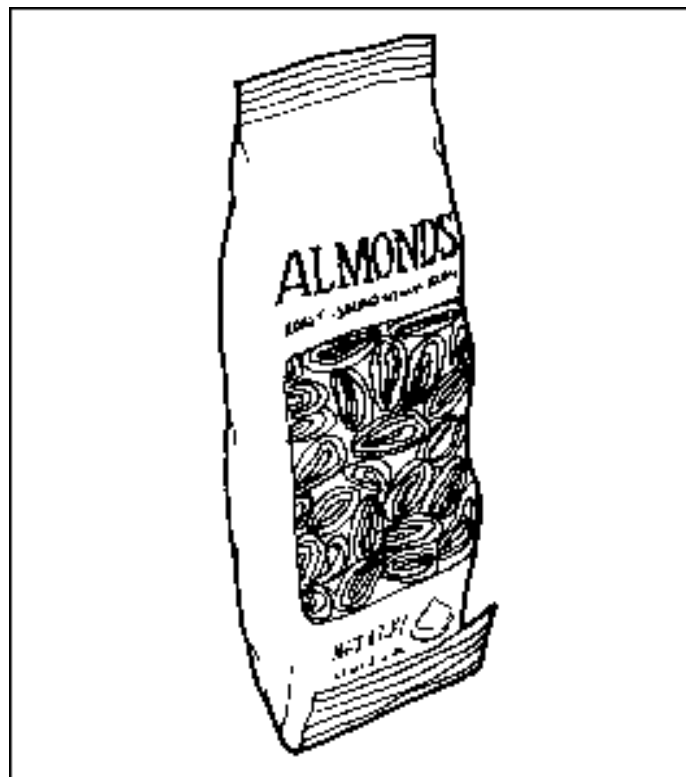

**Figure 6. 8 SELECTION SHELF PRODUCT SPACER POSITIONED TO HOLD CANDY UPRIGHT.**
7. **PRODUCT SPACERS—8 SELECTION SHELF:** The 8-selection shelves are equipped with a product spacer (see Figure 6) that can be pivoted from the right side of each product space. These spacers should be pivoted out to hold the product upright, but not tight against the product. Leave about 1/8" clearance between the spacer and the product.